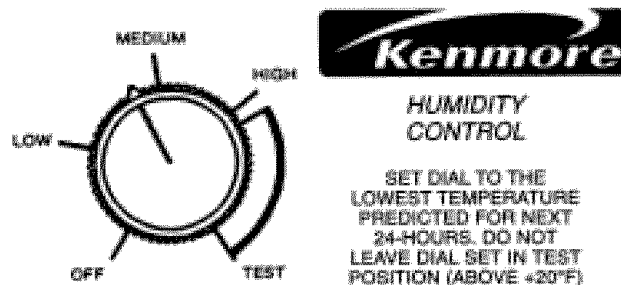

Fig. 26
1. Set the knob to the lowest outdoor temperature expected for a 24-hour period. Because of differences in house construction, you may want to try a higher or lower setting to achieve proper humidity (Fig 26).